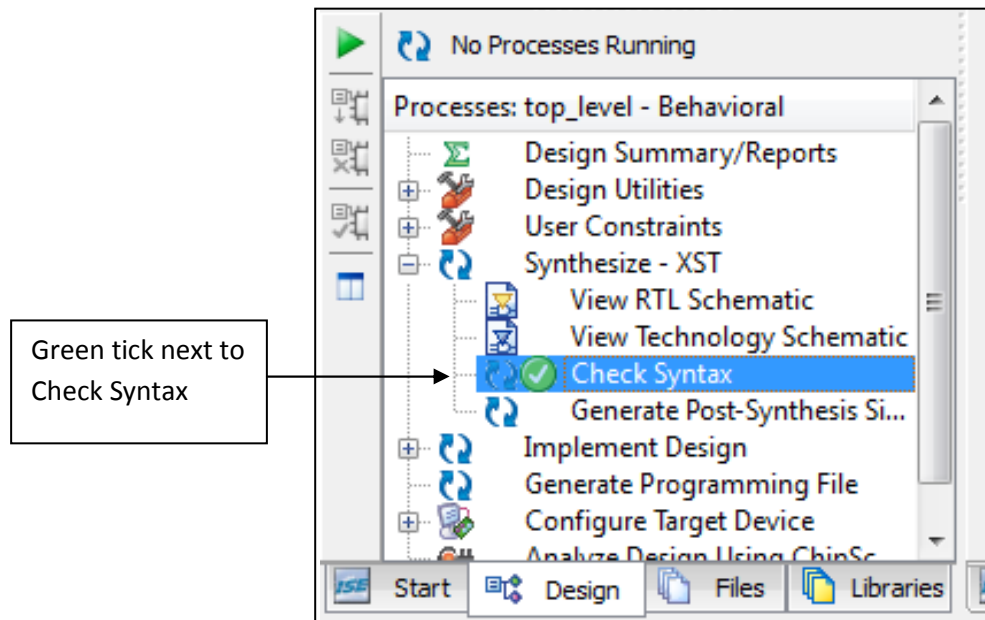
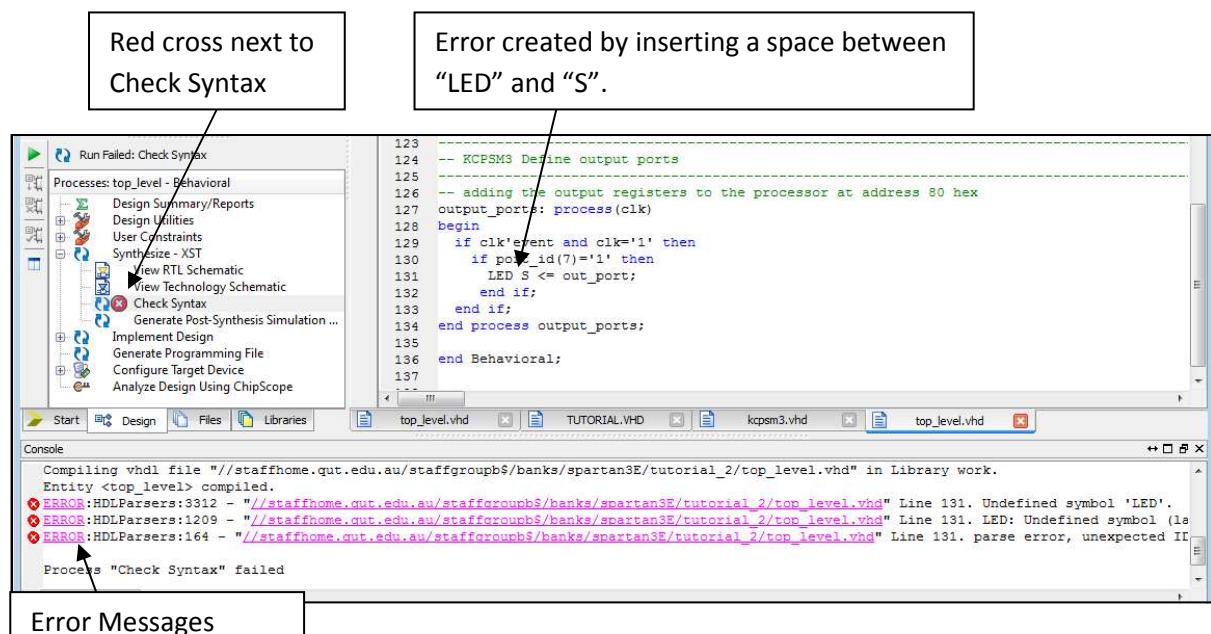

Figure 5.26: A green tick next to Check Syntax shows that no errors were found.
Figure 5.27: Example where an error was purposely introduced. A red cross next to Check Syntax indicates that an error was found.
- Double-click on **Check Syntax**. After some time, a green tick should appear beside **Check Syntax**, as shown in Figure 5.26. If instead, a red cross appears, this means a syntax error has been found. Any errors should be fixed before proceeding. For example, in Figure 5.27, a syntax error has been purposely made, in that a space has been left between “LED” and “S” in “LED S”. If a syntax error has been found, an error message should appear in the **Console Window**, which should assist with diagnosing and fixing the problem (see Figure 5.27).